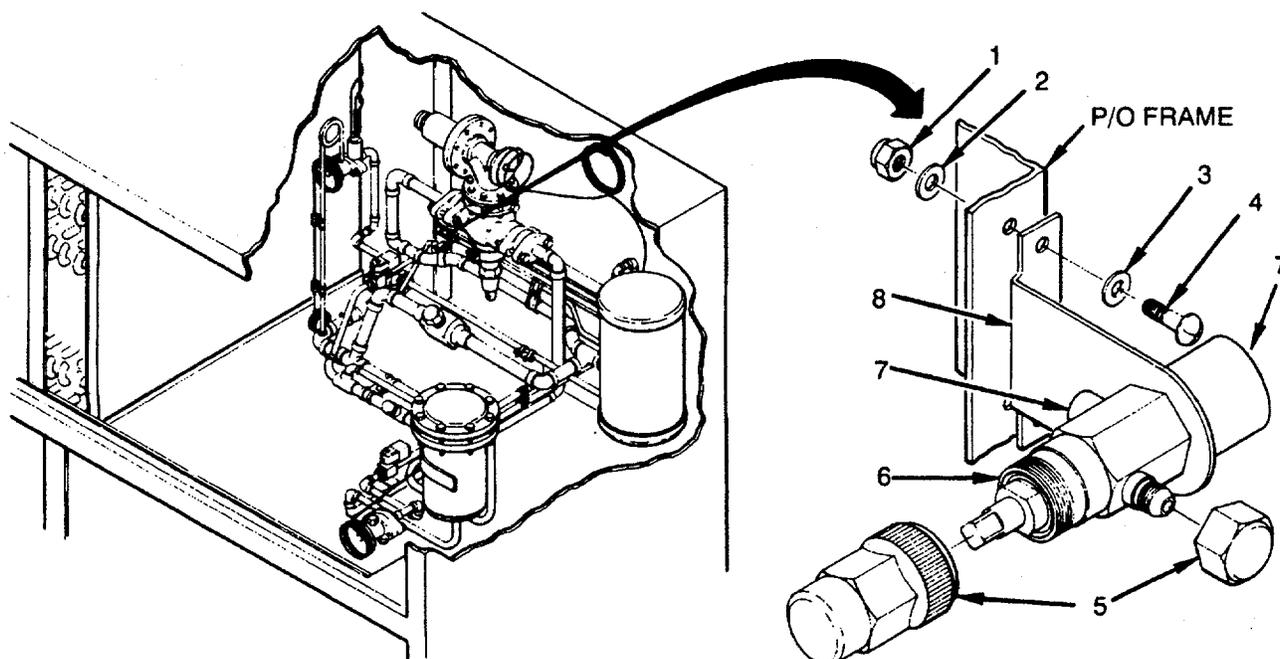

Figure 5-19. Service Valve (Expansion)
1. Check that caps are in place and that threaded connection ends are not damaged. Replace if missing or damaged (see Figure 5-19).